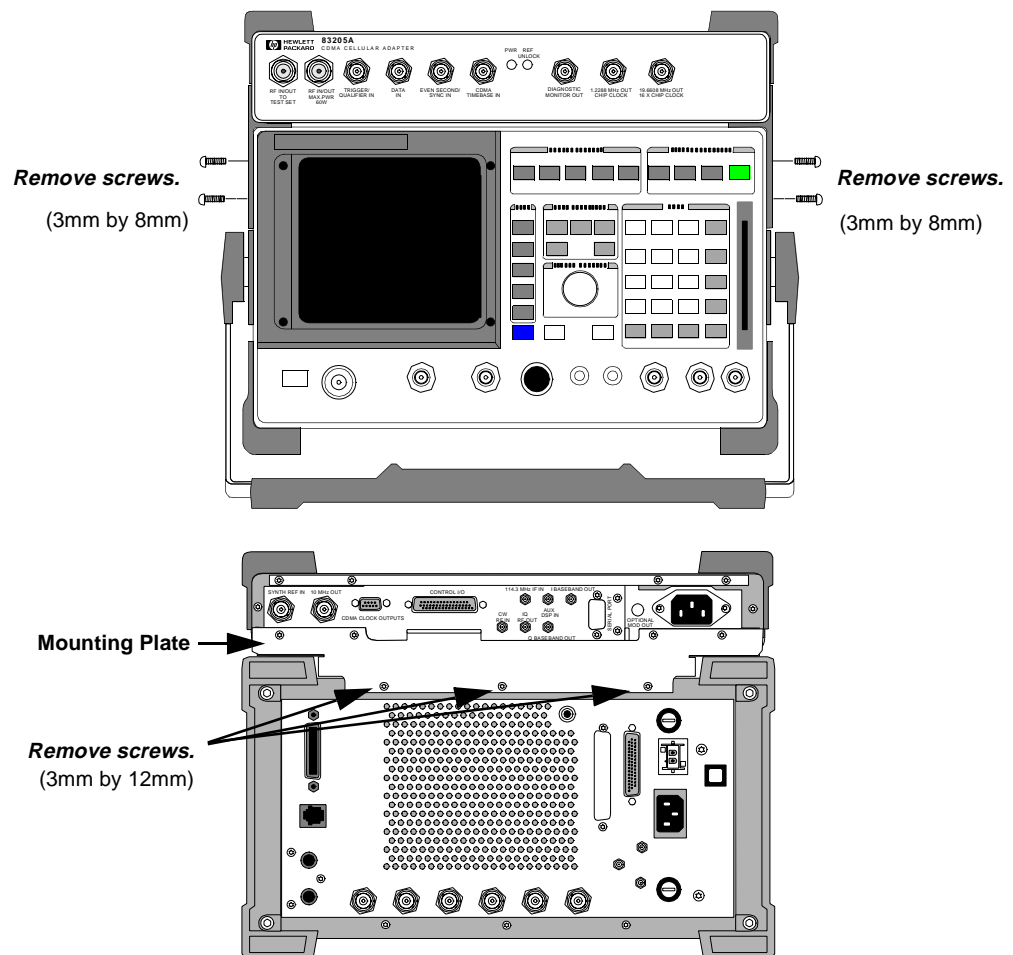

Figure 13
2. Remove the 7 screws that secure the Cellular Adapter and Test Set together, see figure 13: